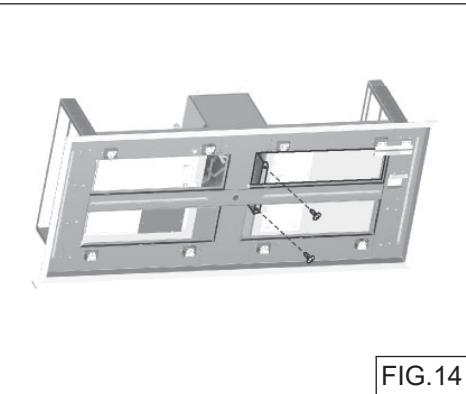

FIG.14
- Remove (2) screws from inside of blower box (Fig.14).